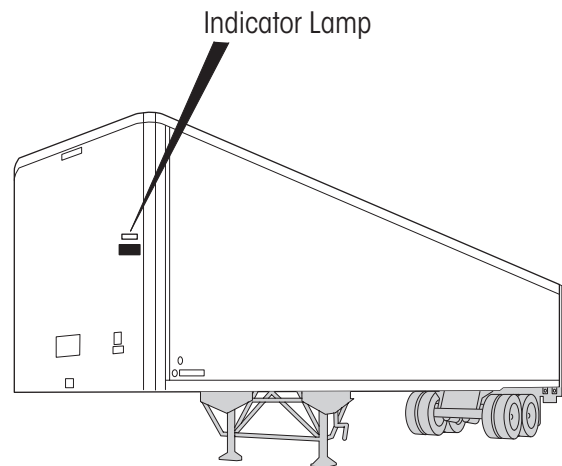

Figure 3: Indicator lamp typical location
- **Indicator Lamp:** Lights up when air flow exceeds limits during inflation or if there's a leak (Figure 3 on page 9)
TIREMAAX® PRO includes an automatic pressure relief function. No manual input is required from the driver or operator during normal operation. However; the indicator lamp should be routinely monitored to confirm system functionality and integrity. The indicator lamp is typically located on the front of the trailer (see figure 3 on page 9) or positioned for visibility from the cab.